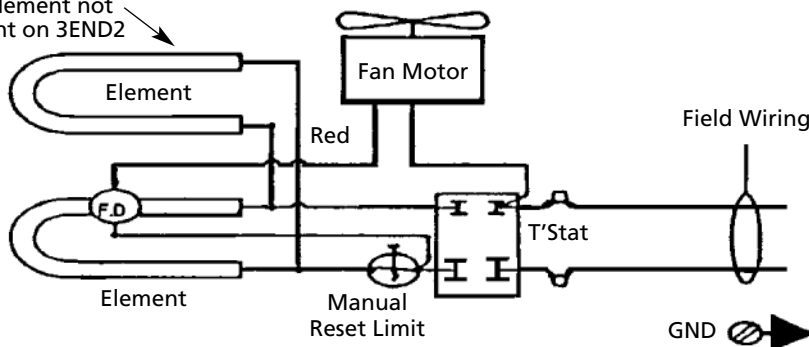

Figure 7 – Wiring Diagram (Single Phase)
3. Connect the power lead wires (field wiring) to the lead wires from the heater assembly. See wiring diagram Figure 7, page 4.